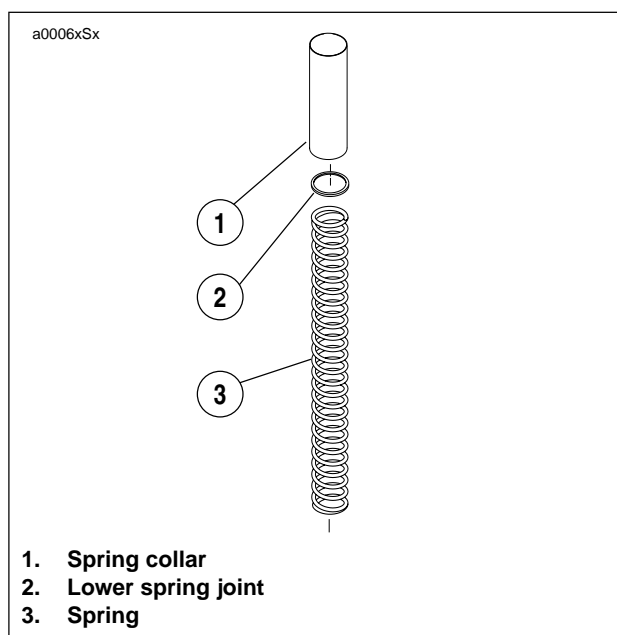

Figure 2-70. Removing Sub-Assembly
5. See Figure 2-70. Remove the spring collar, lower spring joint and spring from slider tube.